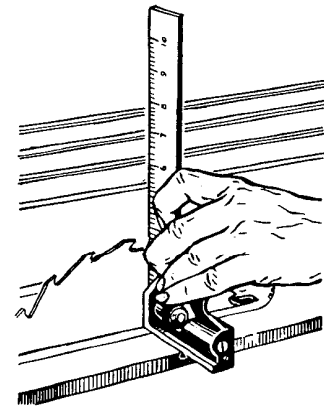

Figure 16
- (2) Loosen the clamp knob and rotate the tilt crank counterclockwise until it will rotate no farther.
- (3) With the saw blade in position described above, tighten the clamp knob to secure the tilt mechanism.
- (4) Place a square on the saw table and against saw blade. (See figure 16.) The blade should be at 90 degrees (perpendicular) to the table top surface.